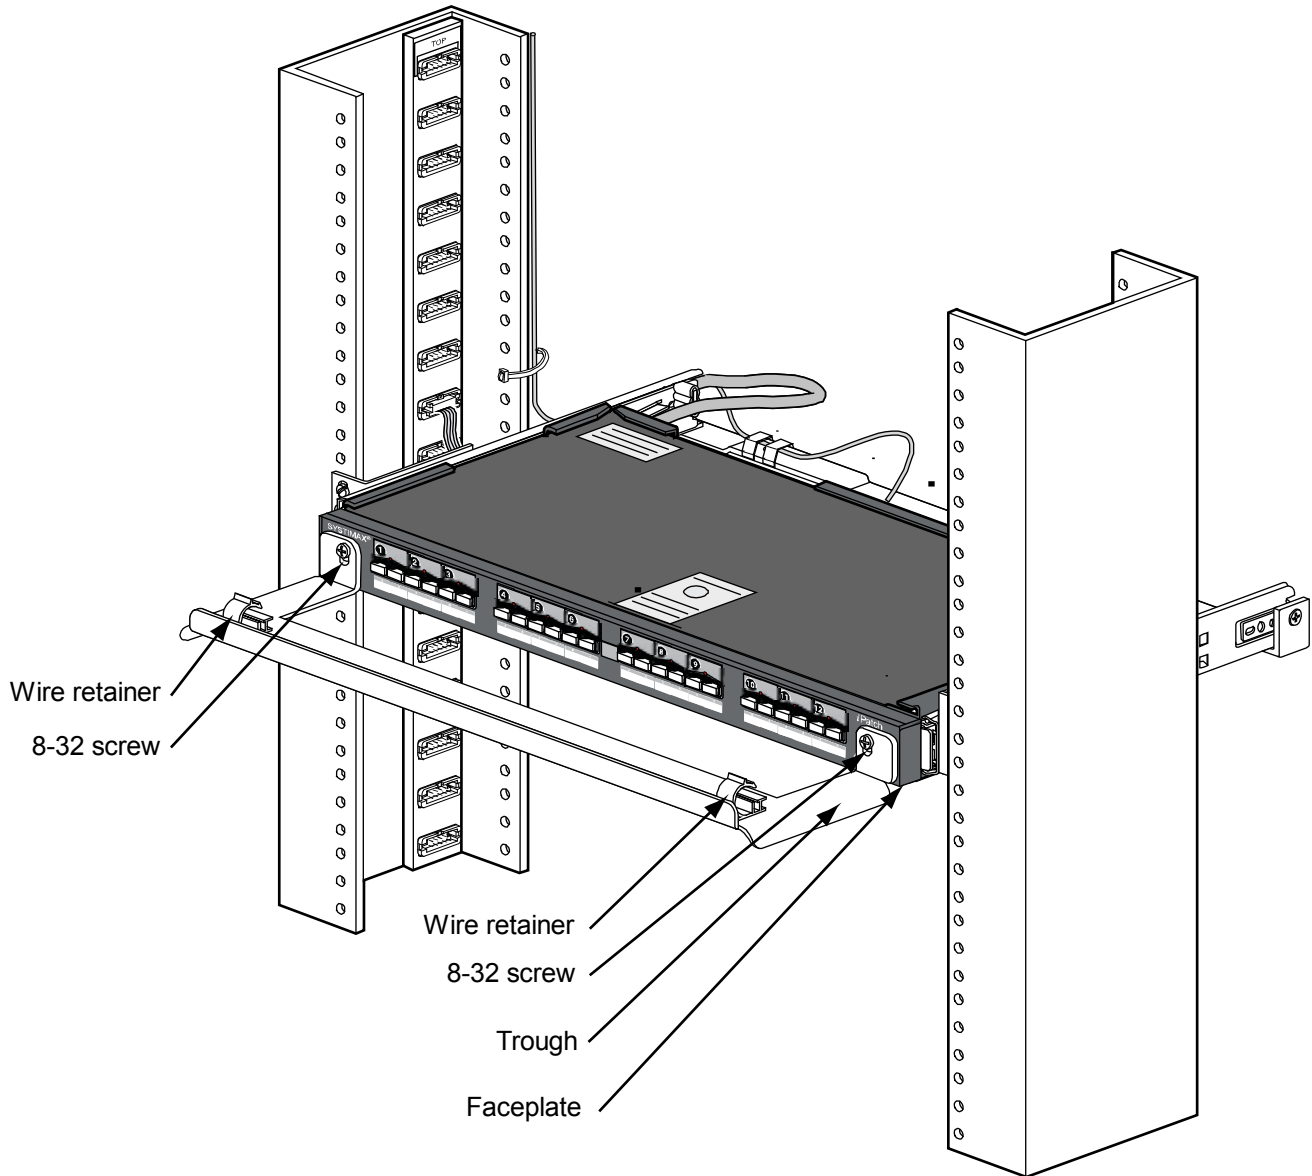

Figure 9. Install the Trough on the Shelf
1. Loosen the two #8-32 x 3/4 inch screws holding the faceplate on the shelf (Figure 9).
2. Position the trough over the faceplate and tighten the two screws (Figure 9).
3. Install an adhesive-backed wire retainer (provided) on each end of the trough as shown in Figure 9.